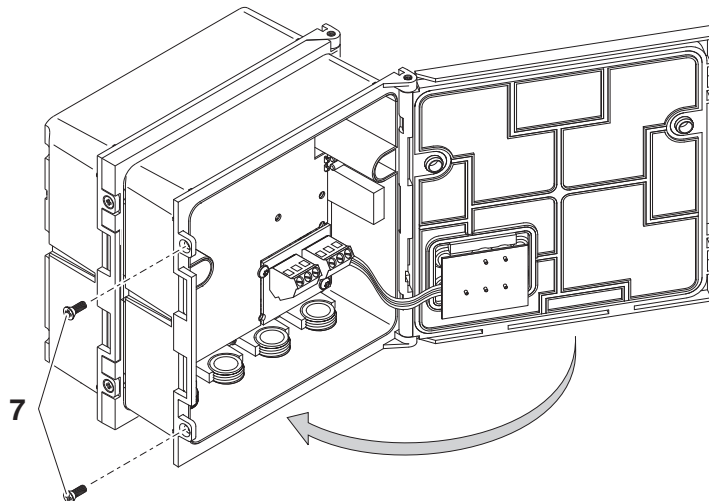

Fig. 3-8 Closing the enclosure (variant 1)
| 9 | Close the lid of the front MIQ module and fix it with the two countersunk screws (pos. 7 in Fig. 3-8). |